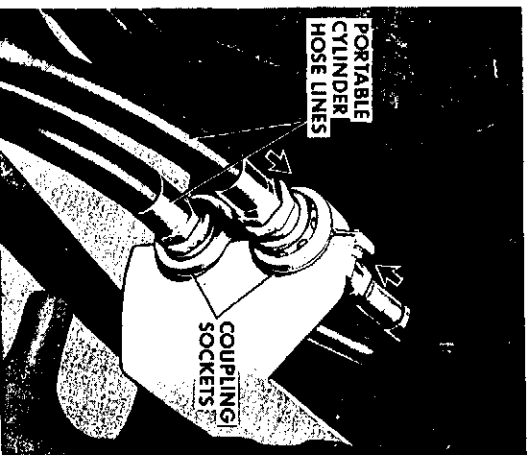

Figure 45
3. To connect the portable cylinder hose lines to the coupling sockets on the tractor, pull each socket fully rearward, insert the cylinder coupling plug fully, then release the socket, Figure 45.